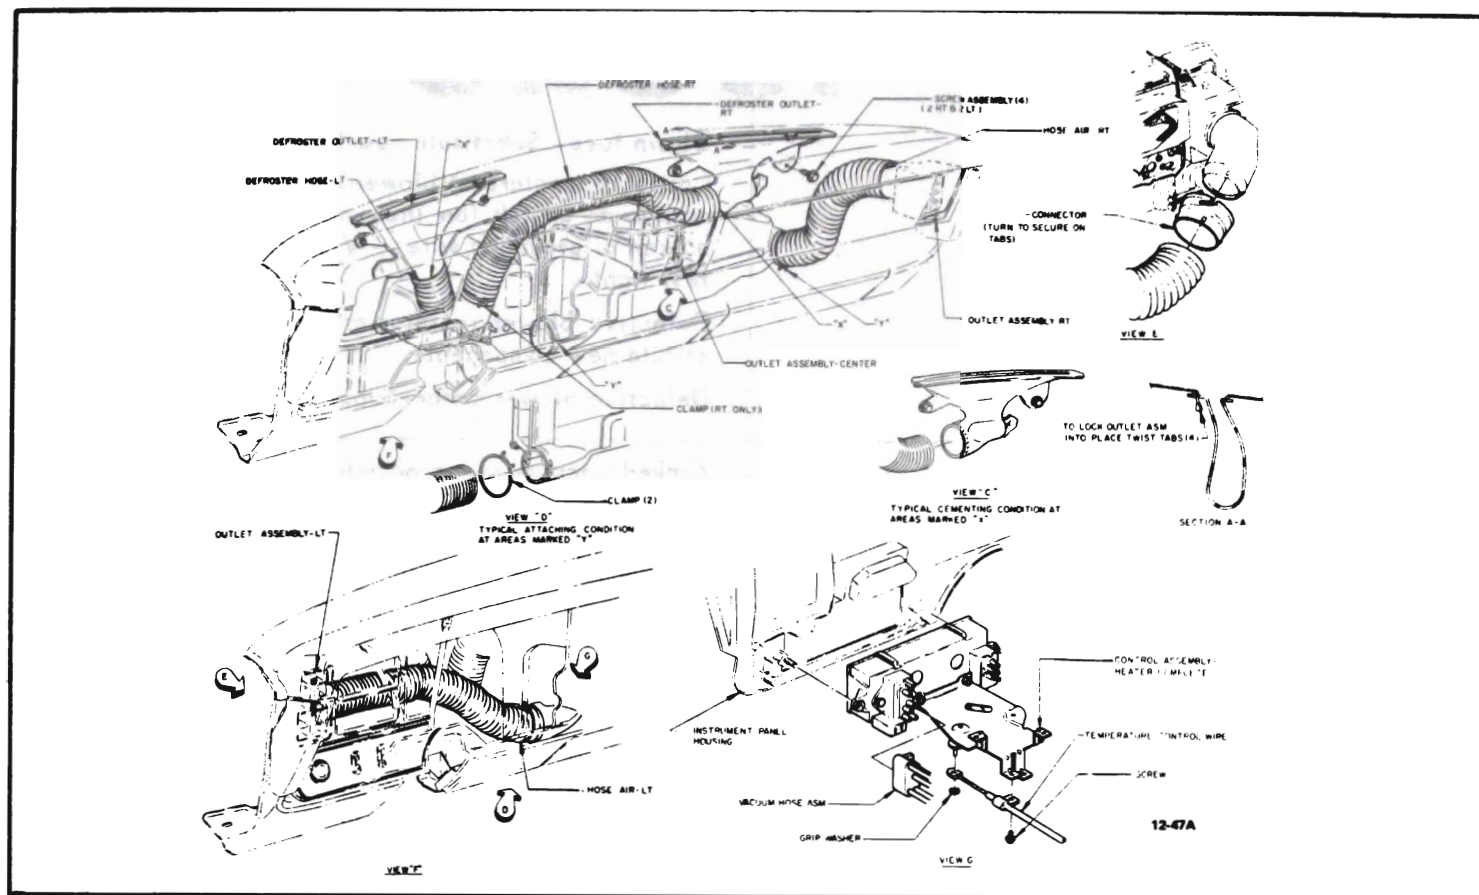

Figure 12-28 Installation of Air Hoses
3. Remove right and left instrument panel outlet air hoses. See Figure 12-28.